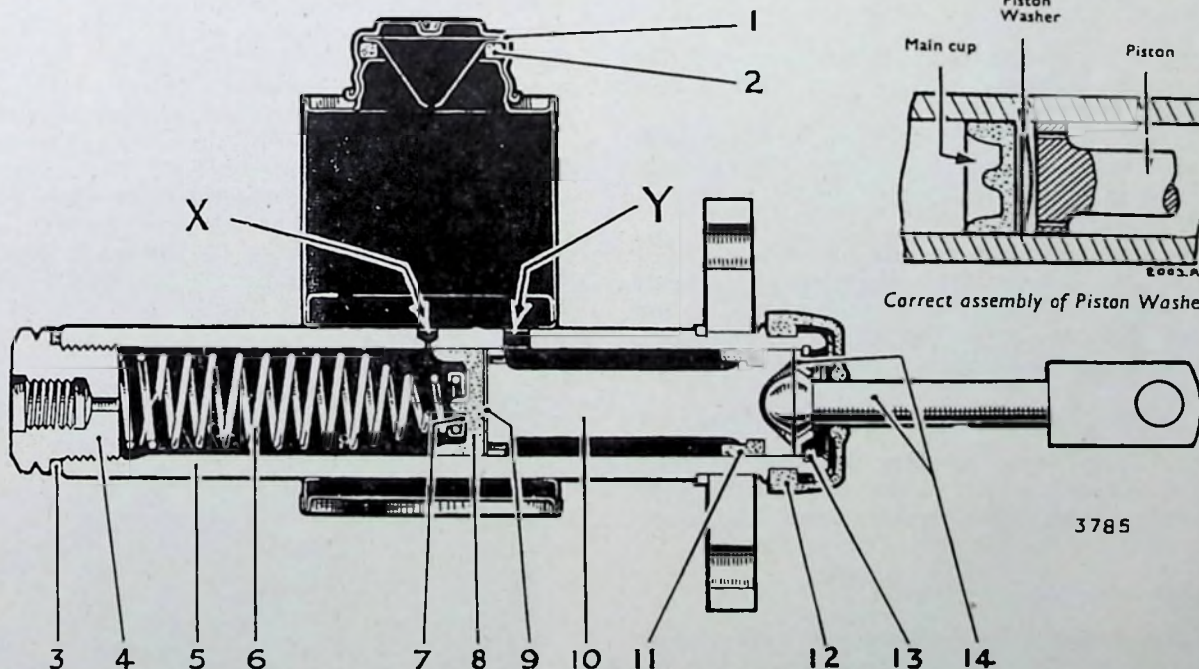

FIG. 4.—Master cylinder, sectional view.
Note.—A groove is formed round the edge of the master cylinder outlet plug (see item 4 in Fig. 4). This identifies it from the brake master cylinder, which has no groove. Clutch and brake master cylinders are not interchangeable, owing to the fact that the clutch master cylinder has no valve.
This unit incorporates a fluid reservoir and a master cylinder. Directly in front of the main rubber cup, when the system is at rest, is a by-pass port which ensures that the system is maintained full of fluid at all times, and allows full compensation for expansion or contraction of the fluid due to changes of temperature. It also serves to release additional fluid drawn into the cylinder from the annular space formed by the reduced skirt of the piston, through the small holes in the piston, after each application. If this additional fluid is not released to the reservoir through the by-pass port, due either to the hole being covered by the main cup as a result of incorrect pedal adjustment, or to the holes being choked by foreign matter, pressure will build up in the system. In order that the rubber cup shall not tend to be drawn into the holes in the piston head, a piston washer is interposed between the two parts; it is important that this washer be assembled as shown in figure 4 (inset).